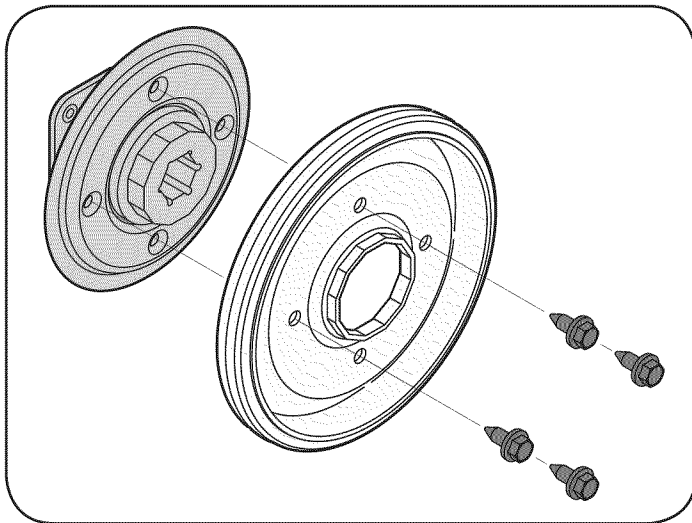

Figure 39
- Remove four screws securing the friction wheel to the hub assembly (refer to Figure 39). Discard old friction wheel.